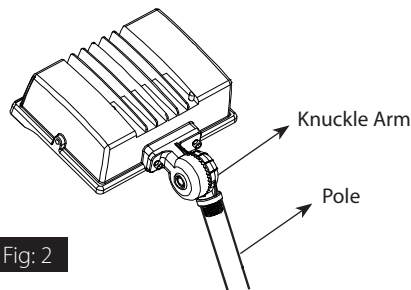

Fig. 2
3. The **Knuckle Arm** allows 180° of vertical aiming adjustment depending on the mounting position as shown in Fig. 2.